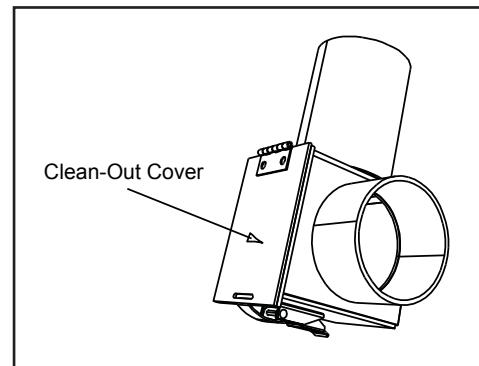

**Figure 19.1**
3. Drill 4 holes with #26 drill bit (provided) into the back of the appliance using the outer shield as a pattern (make sure the assembly is vertical). **Figure 19.1**
6. To clean the top vent adapter, open the clean-out cover. **See Figure 19.1**